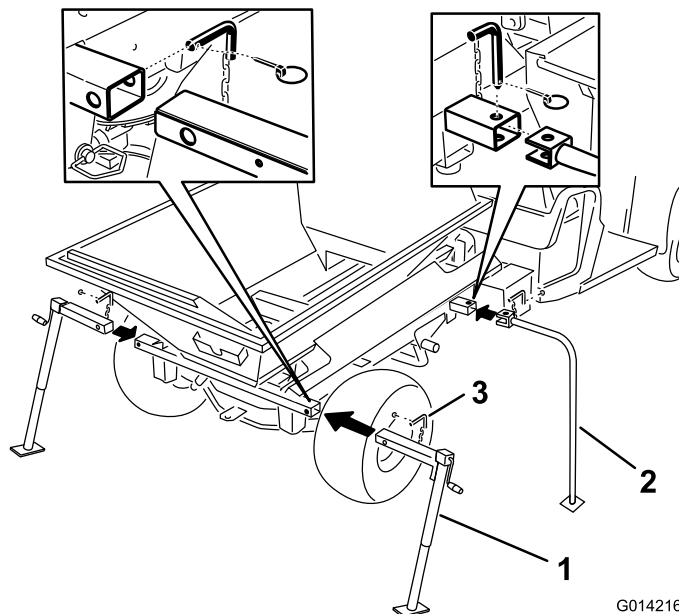

Figure 1
7. Insert the front storage legs and the rear jack stands into the ProPass tubes and secure them with the locking pins (Figure 1).